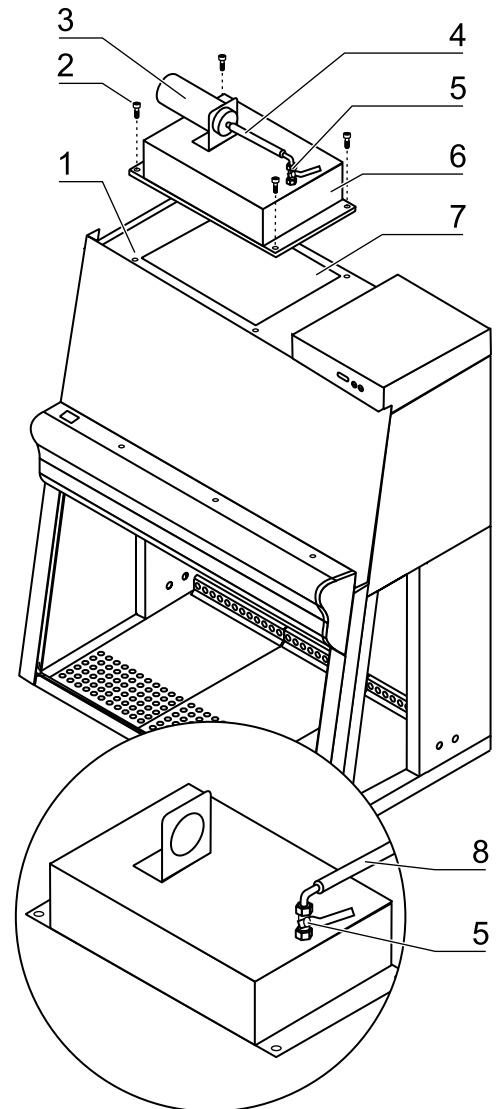

Fig. 2,
**Fig. 2:** The disinfection hood with carbon filter [6] is installed to the exhaust aperture [7] at the device ceiling. Discharged air or gases are routed into the carbon filter [3]. Alternatively, a hose connection to an on-site exhaust system can be connected to the shut-off valve [5].
**Fig. 2:** A flexible hose [4] connects the carbon filter [3] to the shut-off valve [5]. A correspondingly extended exhaust hose can route discharged air or gases into an appropriate exhaust system; this requires corresponding hose material ( $\varnothing$  1/2") at the site.